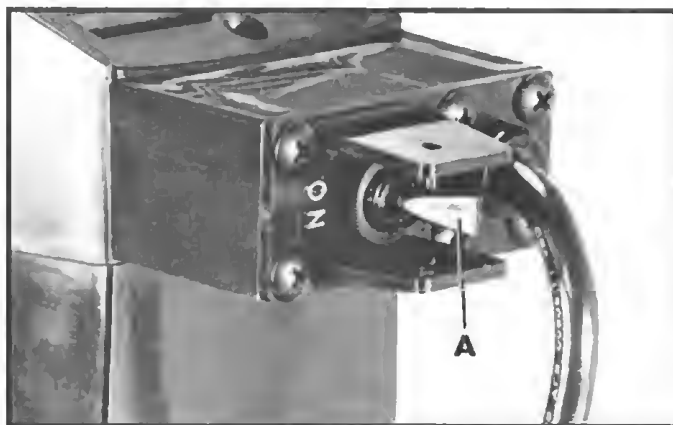

Fig. 25
The on/off switch (A) Fig. 25, is located on the side of the motor. To turn the plate joiner "ON," move the toggle switch (A) toward the front. To turn the machine off, push the switch (A) toward the rear.